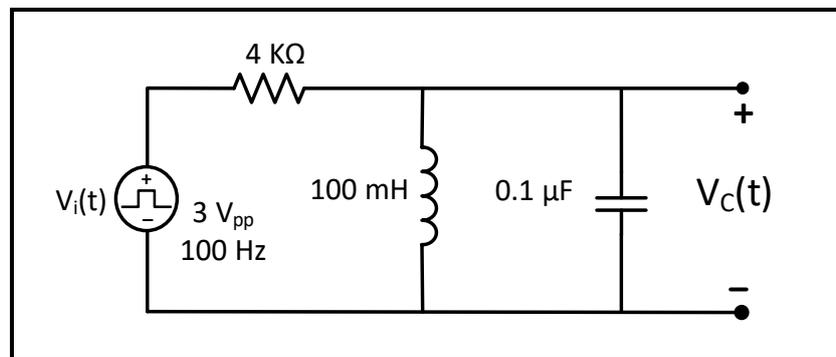

Figure 7.6
For the circuit of Figure 7.6:
- Connect the circuit in Figure 7.6, keeping the previous setting of the function generator (Square wave output, 3 V_{pp}, DC offset 1.5 V, f = 100 Hz), (Use decade box for R).